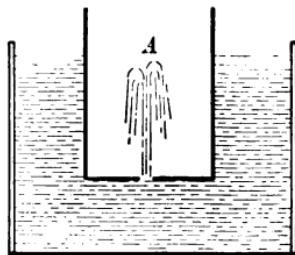

FIG. 15
31. Pressure dependent on Depth.—If we make a hole in the bottom of a can, *A* (Fig. 15), and then push the can down into a vessel of water, we shall observe these things: first, we have to exert force to push it down; second, the farther we push it the more force we must use; third, as the can goes down water rises through the hole; fourth, the farther down the can is, the higher the stream rises.